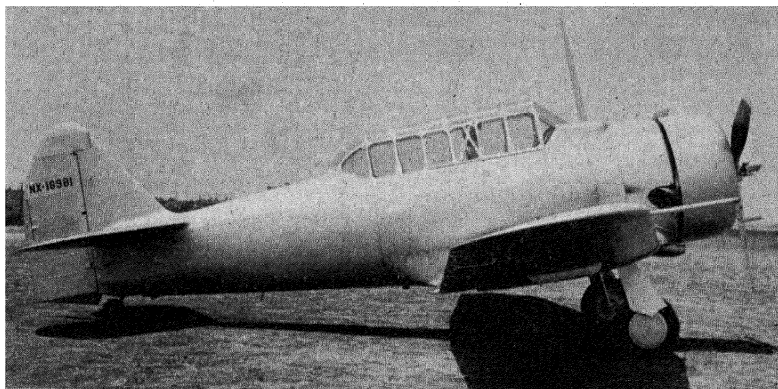

Fig. 161.—North American NA-44. (Courtesy of Aviation.)
7. The NA-44 has a wing area of $255\frac{3}{4}$ sq. ft. and a span of 43 ft. (Fig. 161). Find the mean chord and the aspect ratio.